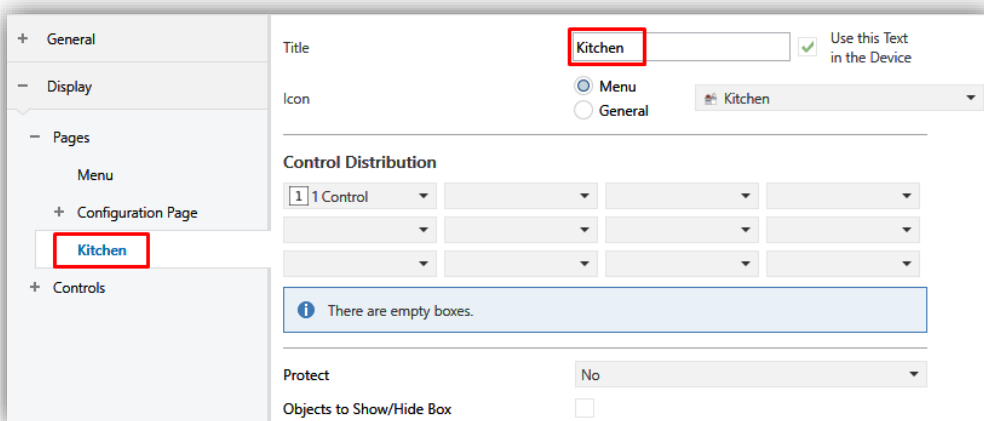

Figure 49. Configuration Page n
- **Title:** text field that identifies each of the enabled pages. In addition, this field allows changing the name of the tab in ETS left menu, as shown in the Figure 49.